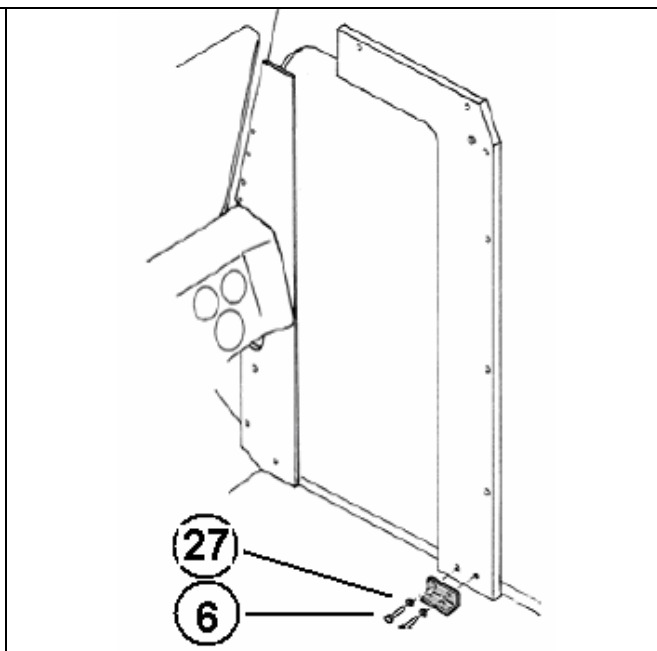

Figure 5-19. RH Kit Installation (2 of 3).
4. Place bracket #952 against the floor panel and the side panel as shown in Figure 5-19. Install the bolts and washers (6 and 26) through the bracket to the side wall.